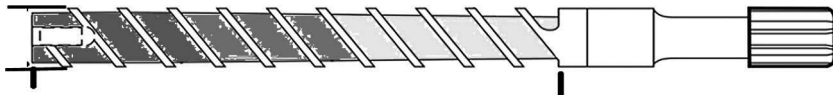

Figure 1.6 Where to measure length and diameter of screw
Length (L) is measured from the front of the screw to the end of the flights. Diameter (D) is measured from the highest point on the flight of the screw to the corresponding other side (see Figure 1.6). Keep in mind the value of L/D for the screw in the press: too short of an L/D results on non-melted pellets, while too long of an L/D and the result is too much residence time, which can burn or degrade the plastic.